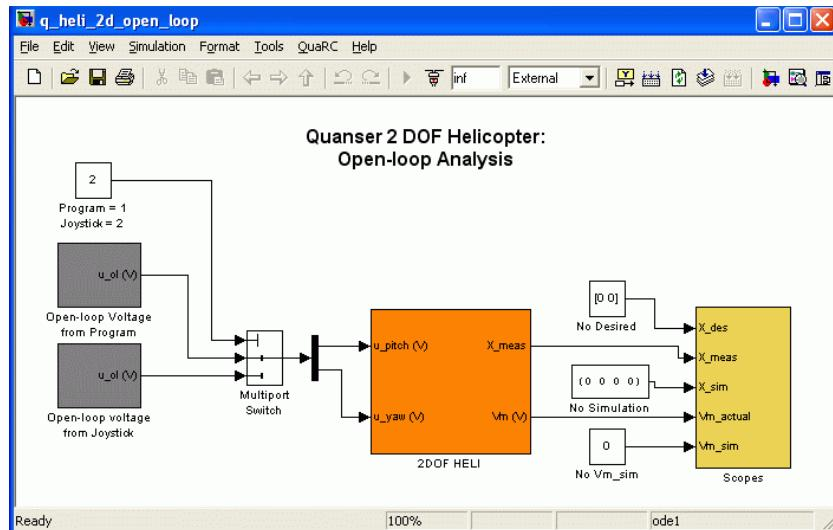

Figure 5.11: Simulink diagram to run 2 DOF Helicopter in open-loop with QUARC
8. Open the *theta (deg)*, *psi (deg)*, and *Vm (V)* scopes in the *Scopes* folder. These scopes display both the desired and measured angles of the Helicopter as well as the voltages being applied to the front and back motors.
11. In the *q_heli_2d_open_loop* Simulink diagram, make sure the *Program/Joystick* block shown in Figure 5.11 is set to 2 in order to generate the desired voltage from the joystick.